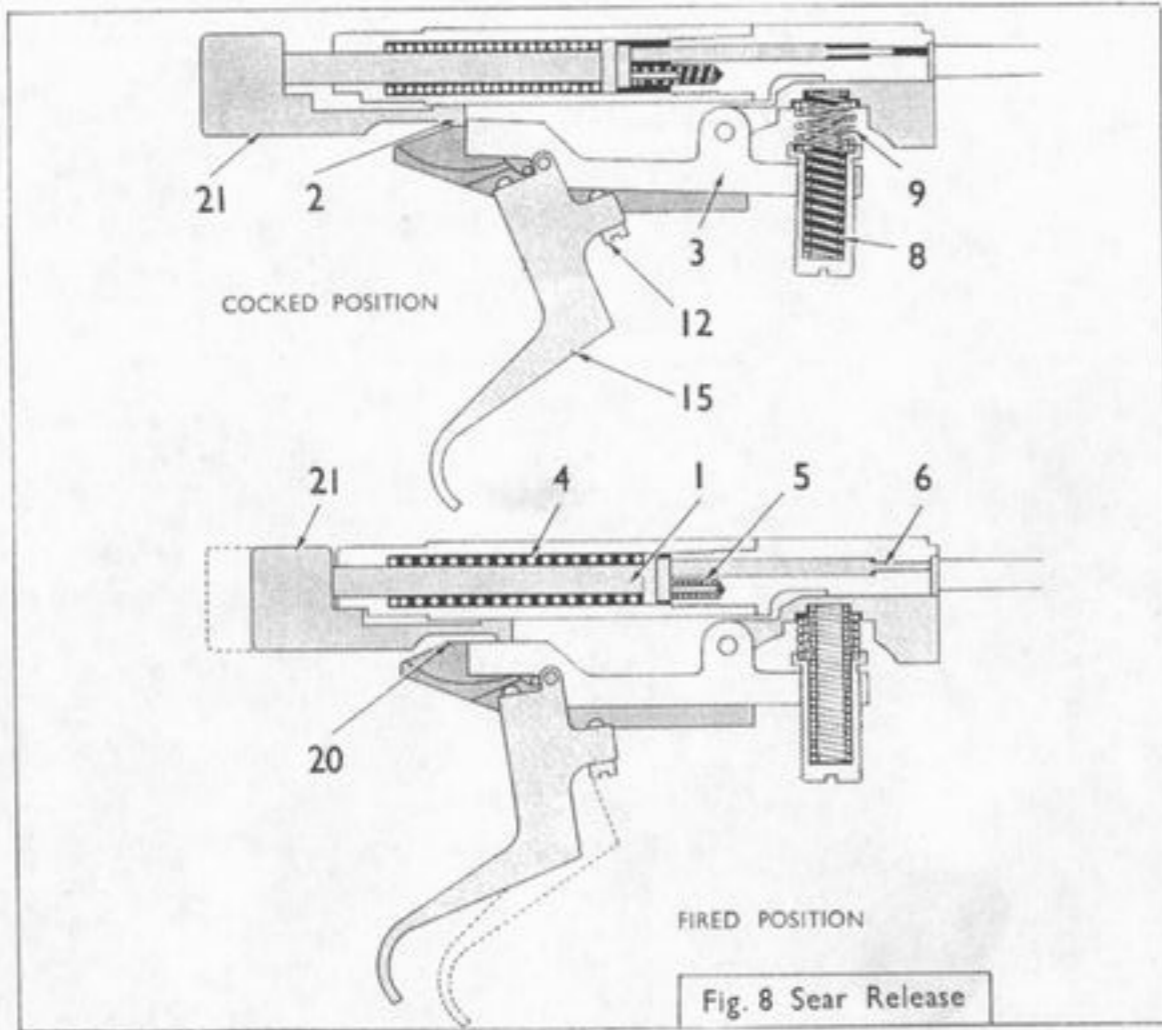

Fig. 8 Sear Release
31. Sear Engagement (Fig.8). - The engagement of the sear (3) and the bent of the cocking piece (2) is adjusted, before the weapon leaves the factory, to a height of 0.03 in. by means of the trigger setting screw (12). This setting normally should not require adjustment.
32. Sear Release (Fig.8). - The pressure exerted by the compressed sear springs (8 and 9), transferred via the sear (3) and trigger (15), combined with the direct pressure on the trigger, produces an upwards thrust through the sear cradle pads (20) on to the base of the cocking piece (21). This upwards thrust counterbalances the downward drag of the bent of the sear on the bent of the cocking piece (2) and prevents any axial movement of the bolt. When the sear is released, the striker spring (4) carries forward the cocking piece and striker (21 and 1) to drive the firing pin (6) forward on to the rim of the cartridge, compressing the firing pin spring (5) in so doing.